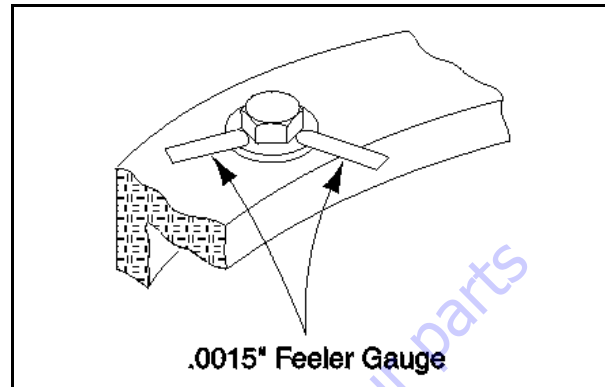

Figure 3-26. Swing Bearing Feeler Gauge Check
- b. At the positions indicated on Figure 3-26. try and insert the 0.0015" feeler gauge between the bolt head and hardened washer at the arrow indicated position.
- d. At the position indicated on Figure 3-26., Swing Bearing Feeler Gauge Check try and insert the